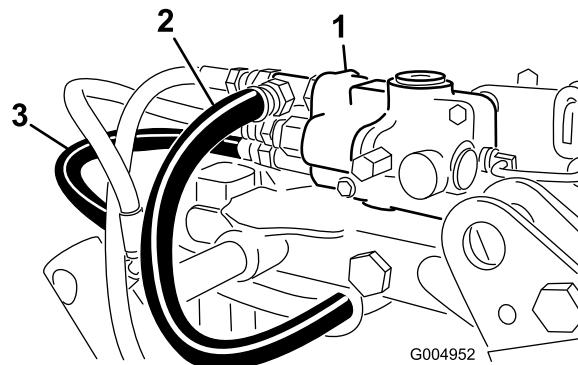

Figure 39
10. Disconnect the tank hose from the control valve (Figure 39). Install the cap from the winter kit valve into the control valve fitting and plug the hose with the plug supplied.
11. Disconnect the pressure hose from the control valve (Figure 39). Install the cap from the winter kit valve into the control valve fitting and plug the hose with the plug supplied.